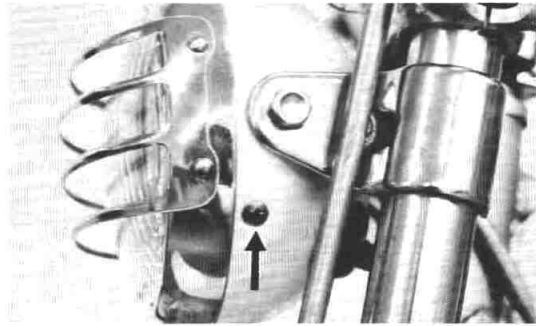

Fig. 5-8-1
1. Remove head light from headlight body. (Fig. 5-8-1)
1. Retirez le phare du boîtier de phare (Fig. 5-8-1)